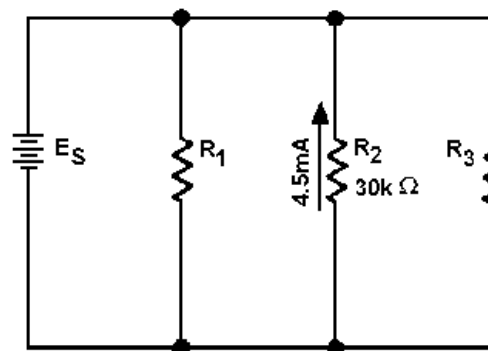

Figure 3-39.—Example problem parallel circuit.
Example: Assume that the current through a resistor of a parallel circuit is known to be 4.5 milliamperes (4.5 mA) and the value of the resistor is 30,000 ohms (30 k $\Omega$ ). Determine the source voltage. The circuit is shown in figure 3-39.
*Q33. What would the source voltage ( $E_S$ ) in figure 3-39 be if the current through  $R_2$  were 2 milliamps?*